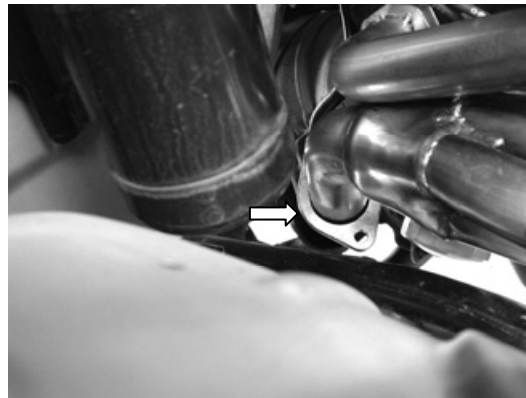

Figure 5
2. Using the original hardware, secure the flanges as the one shown in figure 5 connecting each header to the Y-pipe assembly.